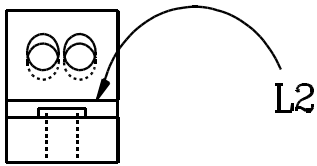

Figure 20
77. Click on line L2 twice in the side view. (See Figure 20.)